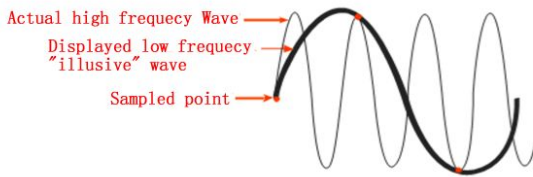

Figure 2-42
- **Fake wave phenomenon:** Fake wave phenomenon will appear if the oscilloscope does not sample the signal quickly enough and does not make accurate waveform recording, as shown in figure 2-42. To eliminate this type of phenomenon, switch to a quick time base gear or adopt the peak value detection mode.